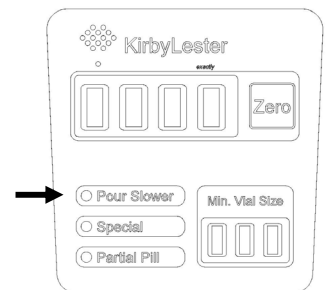

Fig. 6
- If tablets are poured too fast, the orange Pour Slower light will illuminate (Fig. 6). Slow down, finish the count, empty the tray into a vial, and recount through the KL1 to ensure accuracy.